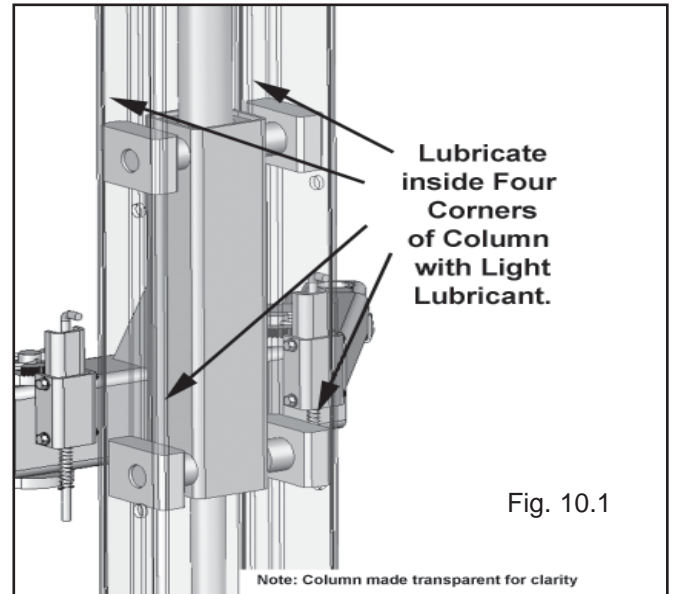

Fig. 10.1
1. Spray the inside of the Columns where the Slide Blocks glide with a light lubricant or WD-40. (See Fig. 10.1)